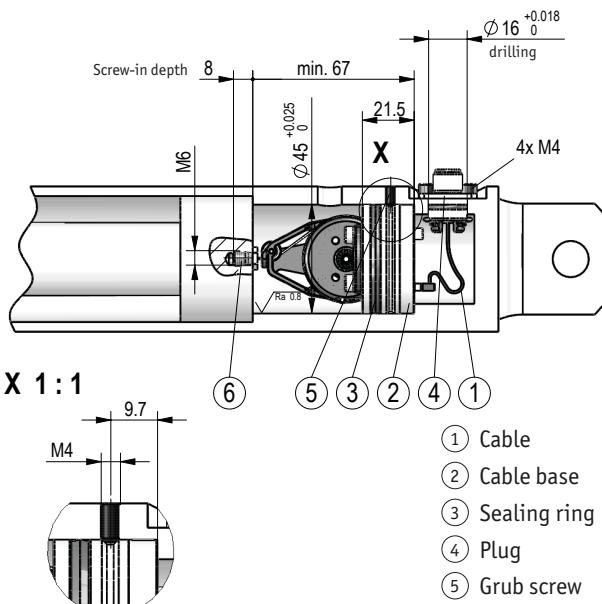

Fig. 3: Mounting in the cylinder
Mounting (Fig. 3):
1. Plug the cable ① without flange enclosures on the SGH10. When installing, the cable ① (e.g. KV1H) should be directed to the cable outlet from the bottom part of the cylinder.
2. Cautiously press the SGH10 with greased sealing ring ③ into the the bottom part of the cylinder. Take care that the plug insert ④ and the cable won't be pinched, but rather that the plug insert be pulled outside through the plug outlet on the bottom part of the cylinder. Join the plug insert with the flange enclosures incl. greased O-ring and screw it 4x at the intended position. The axial securing can be done with a threaded pin ⑤ as shown in fig. 3. Tighten the threaded pin slightly (approx. 0.5Nm) and then turn back again approx. 0.5 turns.
For detailed information on installation refer to chapter 4.1 (Fig. 3)